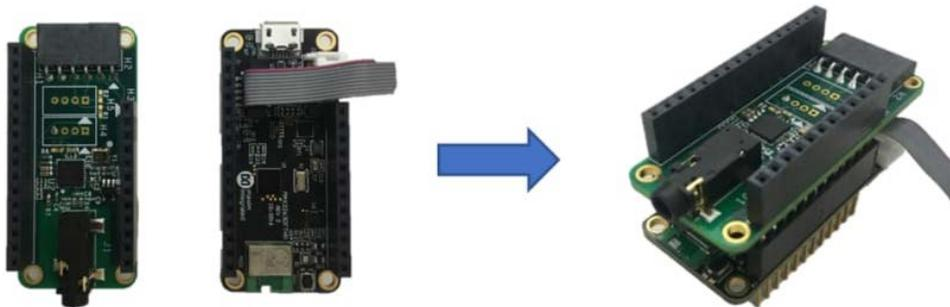

Figure 1. Displays stacking the MAX30003WING on top of the MAX32630FTHR.
2. Stack the MAX30003WING on top of the MAX32630FTHR. The MAX30003WING form factor has 16 pins on one side of the board and 12 pins on the other. Make sure the 16-pin header (H1) and 12-pin header (H3) align on each board when stacking. **Figure 1** shows the MAX30003WING stacking on the MAX32630FTHR.